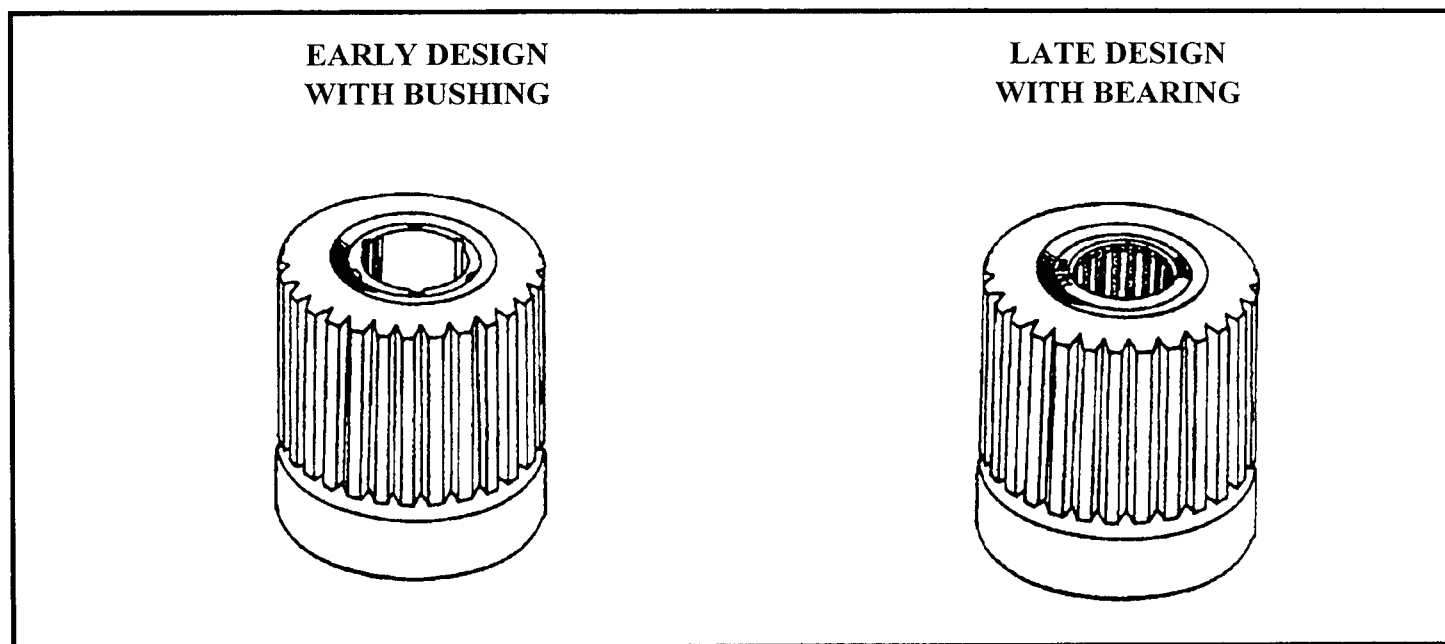

Figure 17
- 4. Bushing in the front end of the output shaft for wear and/or damage. This will support the forward clutch drum and the overdrive center shaft. Replace this bushing on All units during rebuild (See Figure 17).
NOTE: In later applications a caged needle bearing is used in this location. Inspect and replace as necessary (See Figure 17).